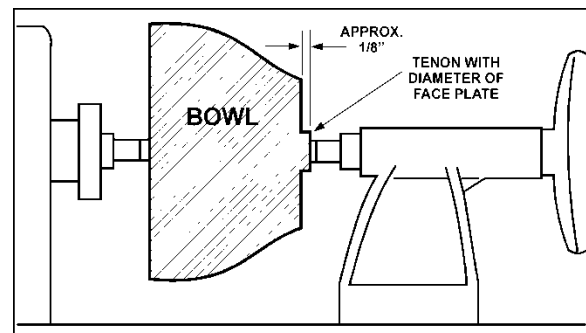

Figure 27
8. Turn a short tenon (about 1/8" long) the size of the hole in the faceplate. See Figure 27. This will allow centering the workpiece when the faceplate is attached.